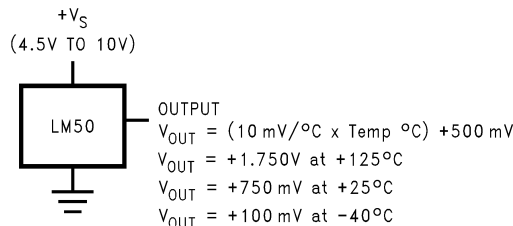

Figure 2. Full-Range Centigrade Temperature Sensor (–40°C to +125°C)
Unless otherwise noted, these specifications apply for V_S = +5 V_{DC} and I_{LOAD} = +0.5 μA, in the circuit of Figure 2. **Boldface limits apply for the specified T_A = T_J = T_{MIN} to T_{MAX}**; all other limits T_A = T_J = +25°C, unless otherwise noted.
- (1) Limits are guaranteed to TI's AOQL (Average Outgoing Quality Level).
- (2) Accuracy is defined as the error between the output voltage and 10mV/°C times the device's case temperature plus 500 mV, at specified conditions of voltage, current, and temperature (expressed in °C).
- (3) Nonlinearity is defined as the deviation of the output-voltage-versus-temperature curve from the best-fit straight line, over the device's rated temperature range.
- (4) Regulation is measured at constant junction temperature, using pulse testing with a low duty cycle. Changes in output due to heating effects can be computed by multiplying the internal dissipation by the thermal resistance.
- (5) Quiescent current is defined in the circuit of Figure 2.
Unless otherwise noted, these specifications apply for $V_S = +5 V_{DC}$ and $I_{LOAD} = +0.5 \mu A$, in the circuit of Figure 2. **Boldface limits apply for the specified $T_A = T_J = T_{MIN}$ to T_{MAX}** ; all other limits $T_A = T_J = +25^\circ C$, unless otherwise noted.
Quiescent Current vs Temperature (Figure 2)